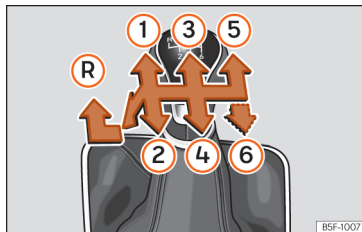

Fig. 86 Gear shift pattern of a 5 or 6-speed manual gearbox.
Gear positions are indicated on the gear lever »» Fig. 86.
- With the gear lever in neutral, push it down, move it all the way to the left and then forwards to select reverse gear »» Fig. 86 .